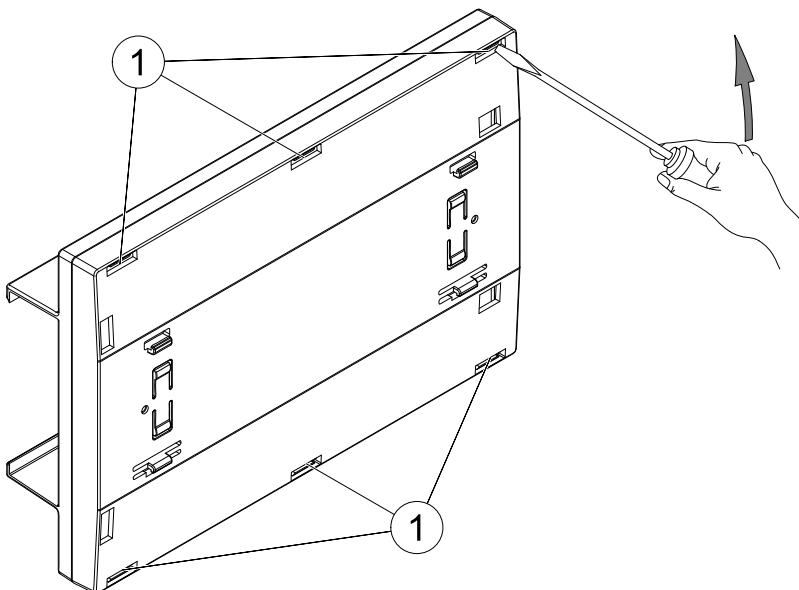

Fig. 12
Release each of the 6 locking clips (1), figure 12 to open CU27-C.